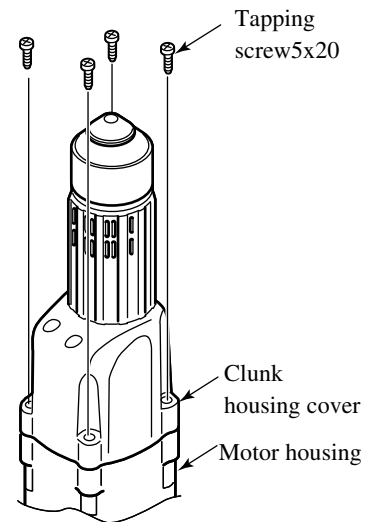

Fig. 2
2) Remove Tapping screw 5x20 (4 pcs), and separate Clunk housing from Motor housing. (See Fig.2)